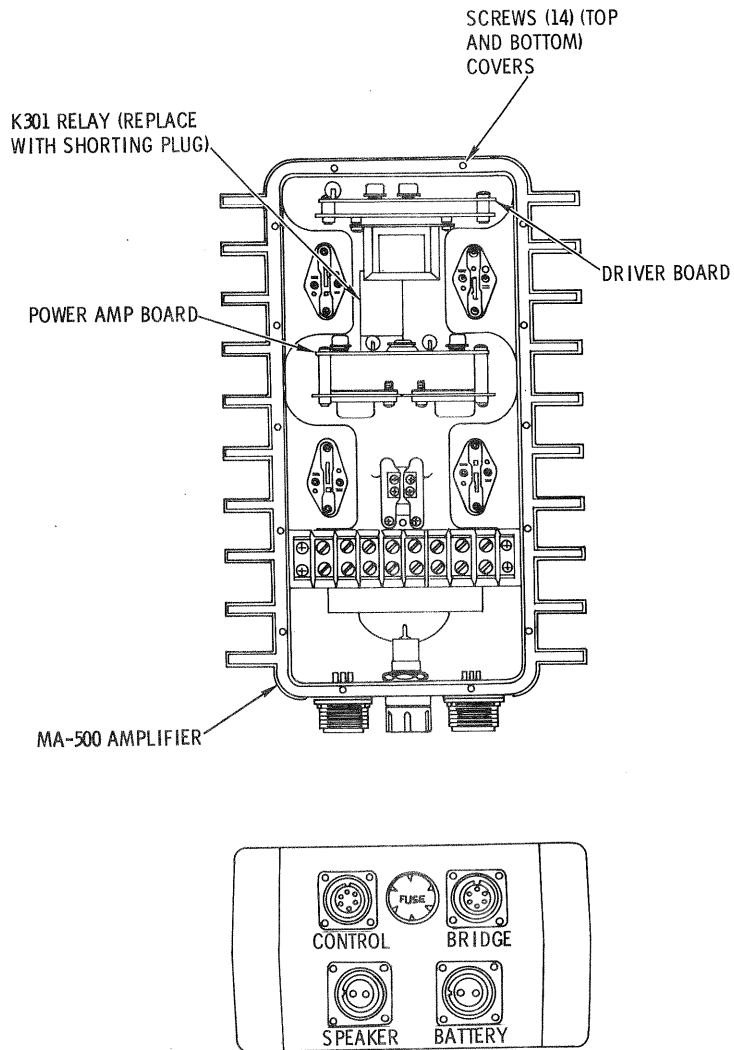

Figure 1. Modification of MA-500 Amplifier
- d. Remove 14 screws securing upper cover and gasket to amplifier housing; remove upper cover. Remove 14 screws securing outer edge of lower cover and gasket to amplifier housing (the 6 inner screws need not be removed); do not remove lower cover. (See fig. 1.)